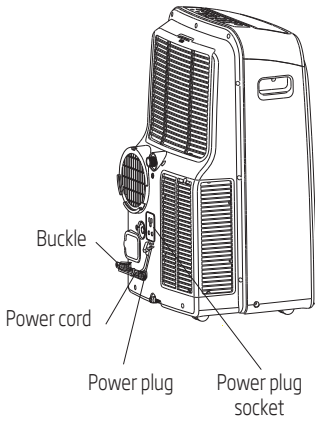

Fig. 25
- Stop the appliance and unplug it, wrapped the cord and bundle it with the tape (Fig. 25). Remove the batteries from the remote controller.